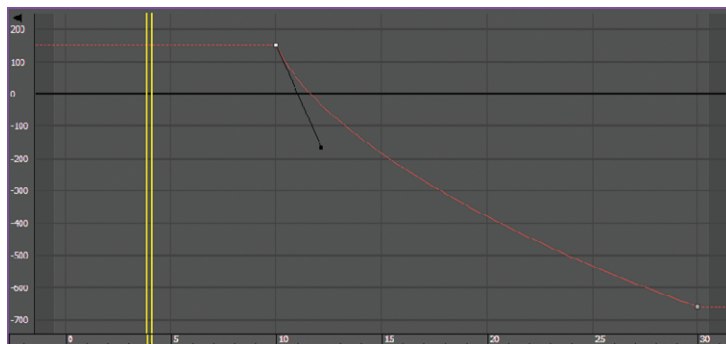

FIGURE 6.10 Match your curve to this one.
15. Adjust the tangent handles to resemble the curve shown in Figure 6.10.